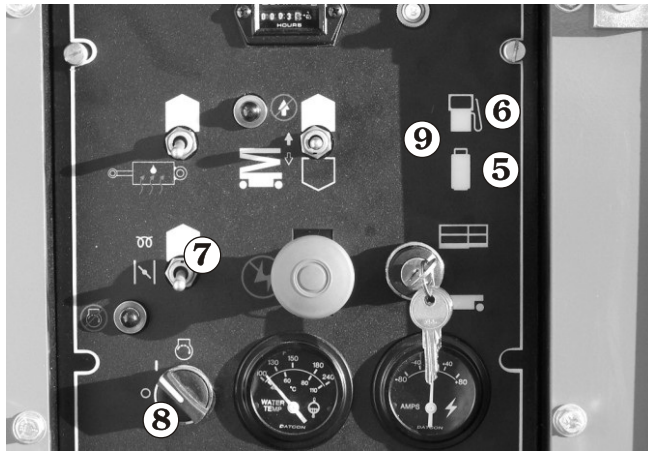

Figure 8.6
Set the **Fuel** switch **9** to LP fuel **5** or gasoline fuel **6**, depending on which you want to use (see Figure 8.6).
- If the engine is cold, press and hold the **Choke** switch **7** (see Figure 8.6) during the next step.
- Turn the key **8** to start and hold it there until the engine starts or for 20 seconds, whichever comes first. When the engine starts, release both the key **8** and the choke switch **7** (see Figure 8.6)